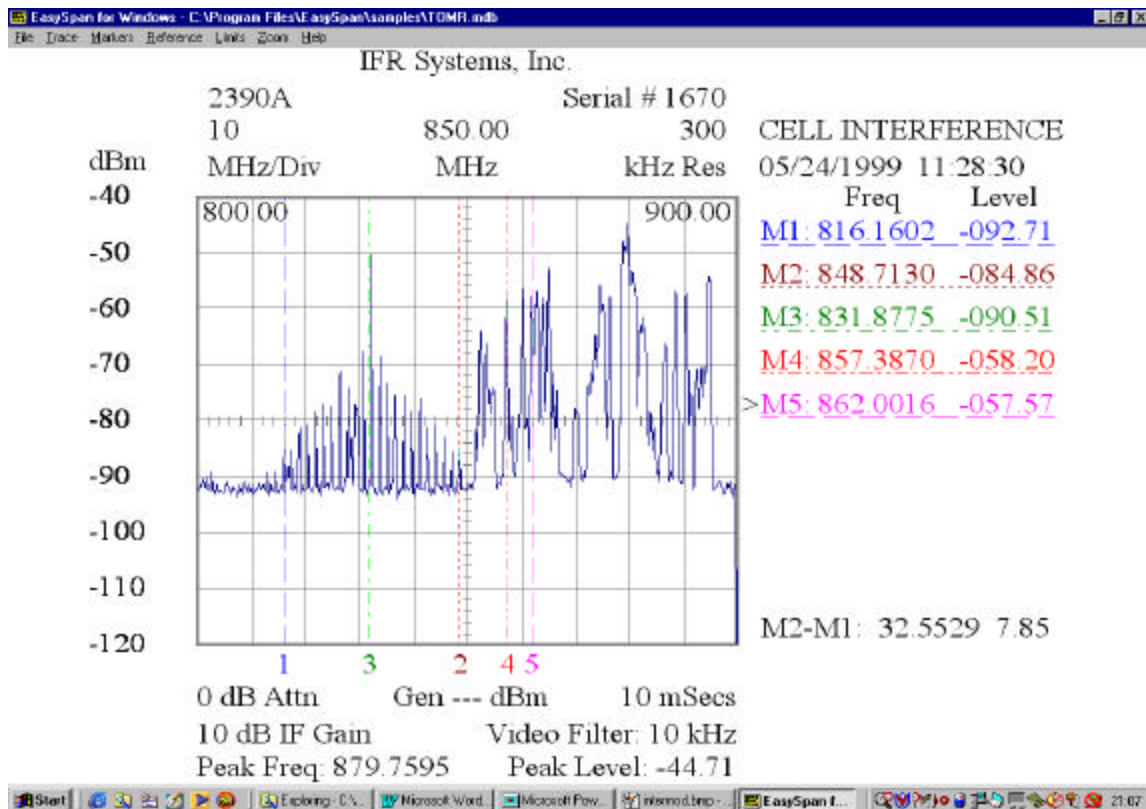

Fig. 6
- 7.12** Cellular radios have had many problems. Cellular phones are controlled by the cell site and prevented from operation if the cell site finds them to be out of spec. However, in the case shown in Fig.6, the portable cell phone had developed a problem with its 3 watt amplifier system and was transmitting a band of frequencies 32 MHz wide in the cellular spectrum when the driver was not talking. The radio was rendering each cell site almost useless as it moved through the system. The driver of the vehicle stopped for lunch, giving the crew time to triangulate and get a fix on his position. Improper installation resulted in a major interference crisis for many people.